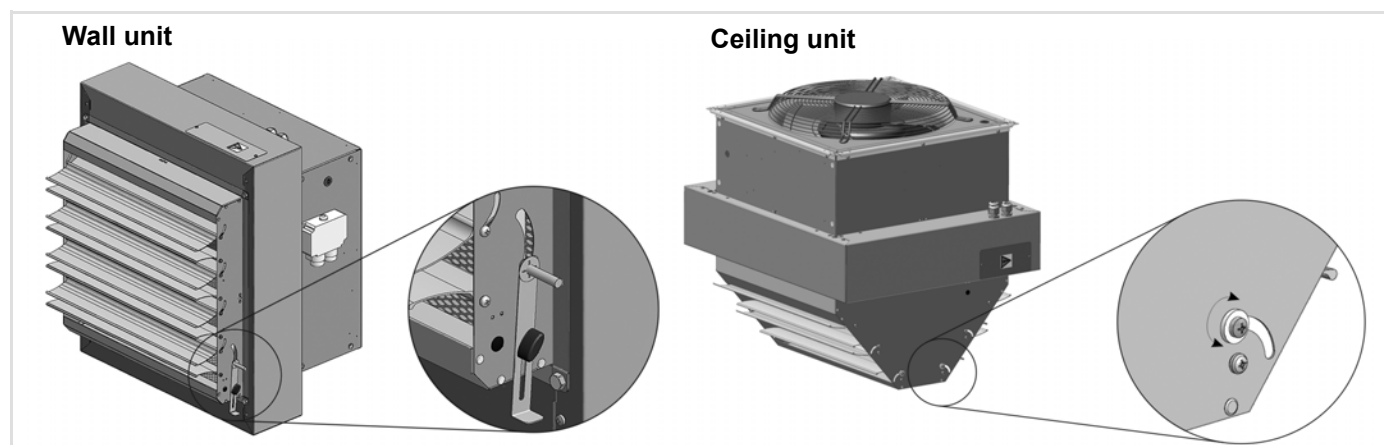

Fig. 6-1: Manual operation
- Secondary air louvres can be operated manually (refer to Fig. 6-1) or can be fitted with an actuator to be wired to a control switch in the OSHE control cabinet.